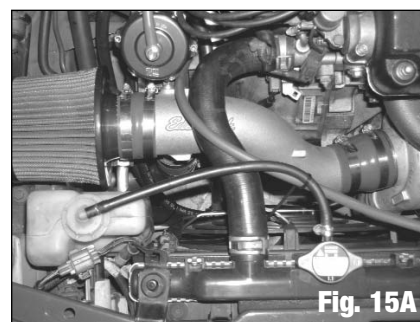
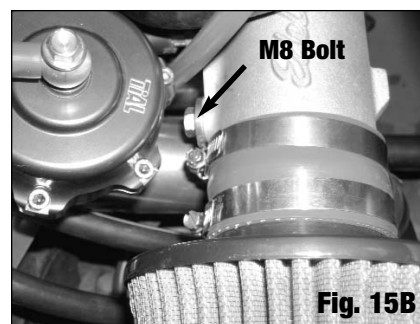

Fig. 15A
Fig. 15B
10. If applicable, press the supplied nylon plug into the non-threaded hole on the compressor inlet pipe. Install a 3/8" barb x 1/4" NPT fitting into the threaded hole in the pipe. Fit the Compressor Inlet Pipe to the compressor inlet using the supplied silicone coupling and clamps **(See Fig. 15A)**. Do not fully tighten. Adjust the compressor Inlet pipe for alignment, and connect the compressor inlet pipe to the brace on the Intake Manifold Inlet Pipe using the M8 x 1.25 (25mm long) bolt **(See Fig. 15B)**. Tighten all nuts/bolts and hose clamps. Connect Air Filter Assembly to the compressor inlet pipe using the supplied silicone coupling and hose clamps.